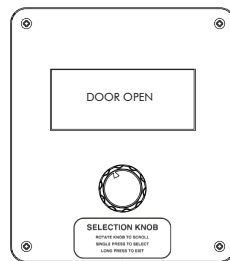

fig. no.26.1
- **DOOR CHECK** (fig. no.26.1)